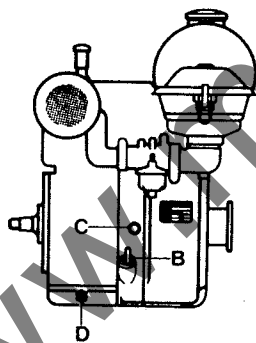

Fig. 1
Fill the fuel tank with regular petrol (minimum octane number 86 RON = two star rating) by means of a sieve funnel. Check the engine oil level with the dip stick (B, Fig. 1) screwed completely in (engine in *horizontal* position). The oil quantity should be maintained at a level between the max. and min. marks shown on the dip stick. Check the air filter; if necessary, clean. (Please observe the instructions contained in the lubrication and maintenance chart on page 12).
- When running with petrol: Put the engine into idling speed and press the stop button (C, Fig. 1). Close the fuel cock.
- When running with paraffin: Switch the fuel cock over to «petrol» position and let the engine run for 2-3 minutes. Then put the engine into idling speed and press the stop button (C, Fig. 1). Close the fuel cock.